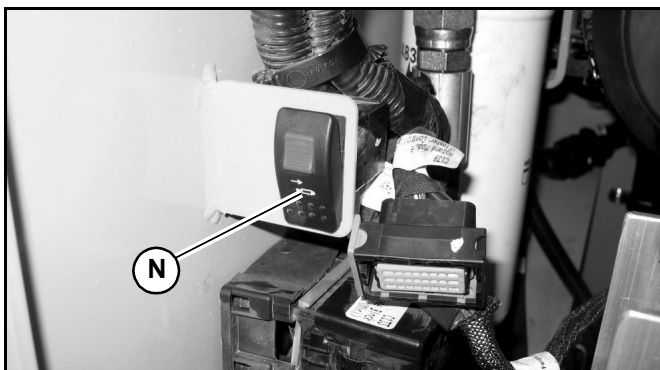

Fig. 108 – Track Tension Switch
15. Start the machine, open the engine compartment and press the bottom of the track tension service switch (N, Fig. 108), to set the track tension cylinders into the operating (extended) position.